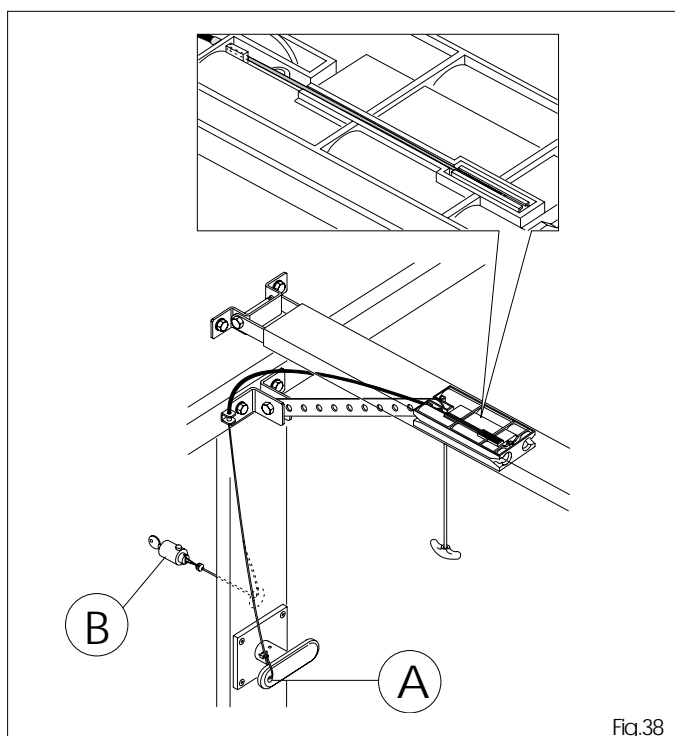

Fig.38
- with handle (fig.38 ref.A)
- with wrench (fig.38 ref.B)